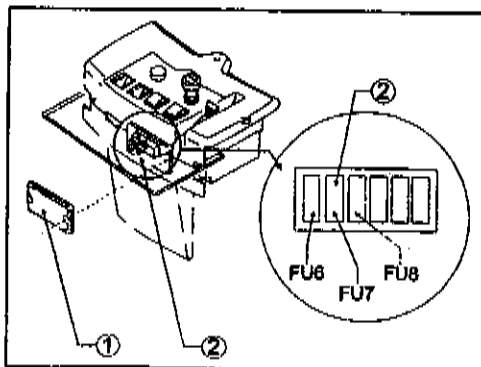

Fig. 17
- remove the fuse cover (fig. 17, ref. 1);